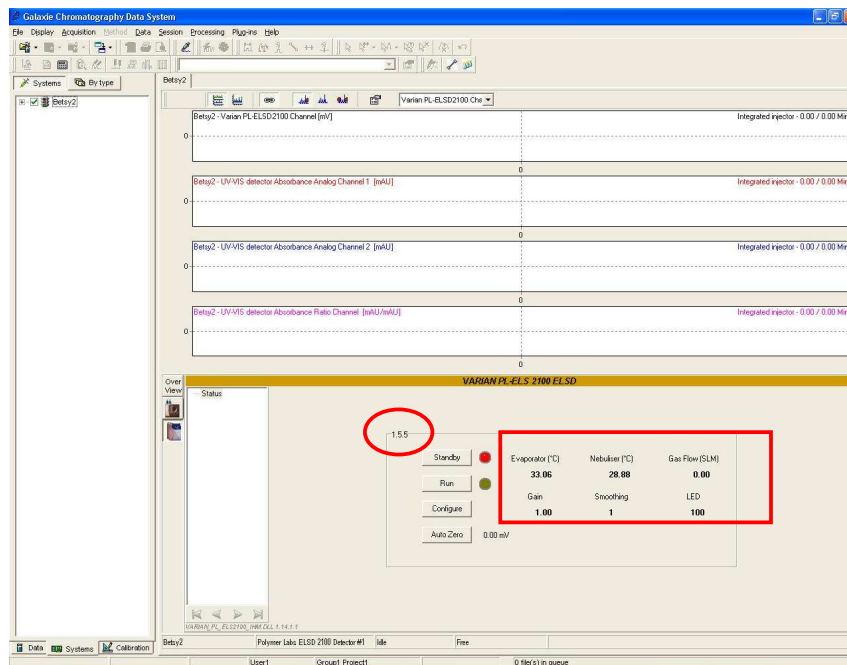

Figure 13: Feedback Values on the ELSD
17. Clicking on the ELSD icon (Fig 13) shows that communication with the ELSD through the Galaxie standalone driver has been established: If communication is successful, the ELSD firmware value will be shown in the top left-hand corner (e.g. 1.5.5), plus feedback values on the evaporator, nebulizer, gas flow, etc. will be visible.